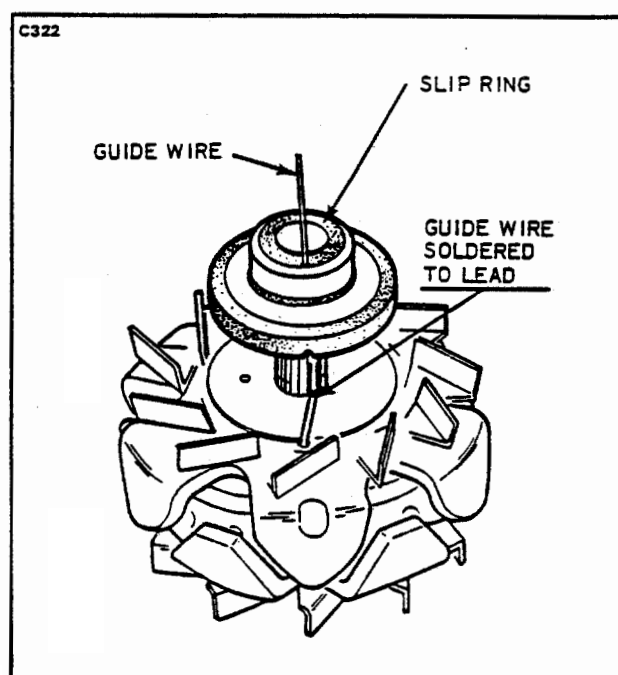

Figure 11-56. Aligning Slip Ring
2. Lap the tinned end of the wire over the field coil lead to the insulated ring and solder the two together. (Refer to Figure 11-56.)